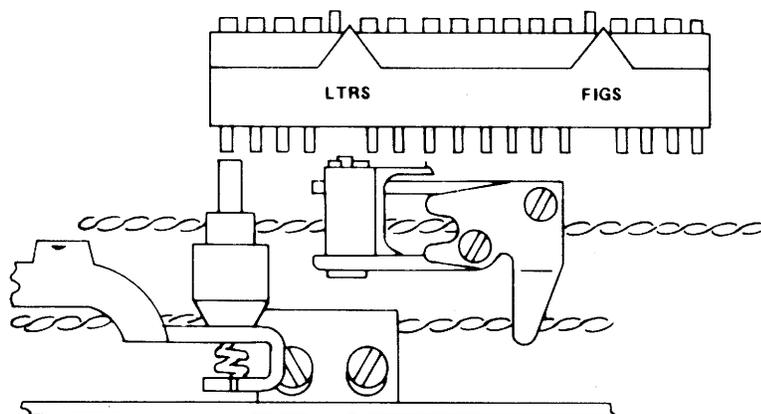

Figure 6-8. Printing Carriage Position Adjustment (Top View).
b. Loosen two clamp screws (see figure 6-8).